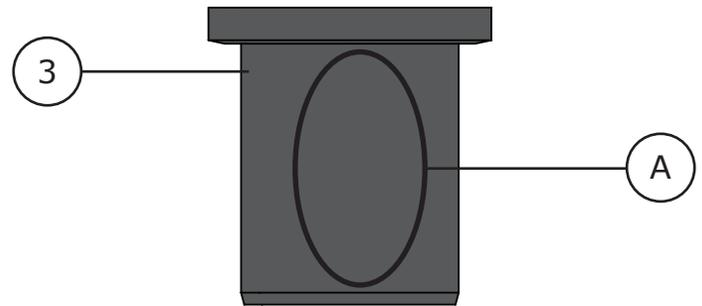

Figure 35 Anti-Seize Application to Bearing
- 1 Apply Permatex® Nickel Anti-Seize or equivalent (Key A) to the outside surface of the bearings (Key 3). Refer to Figure 35.